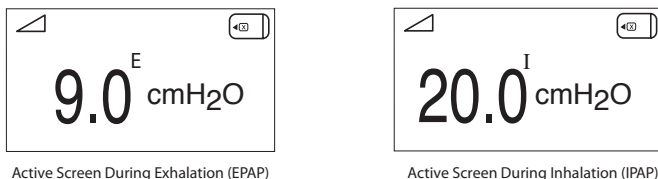

FIGURE 4-3 ACTIVE DISPLAY (WITH SMARTCARD)
- Press the  button to turn on the airflow. The Active Display screen appears, shown in Figure 4-3.